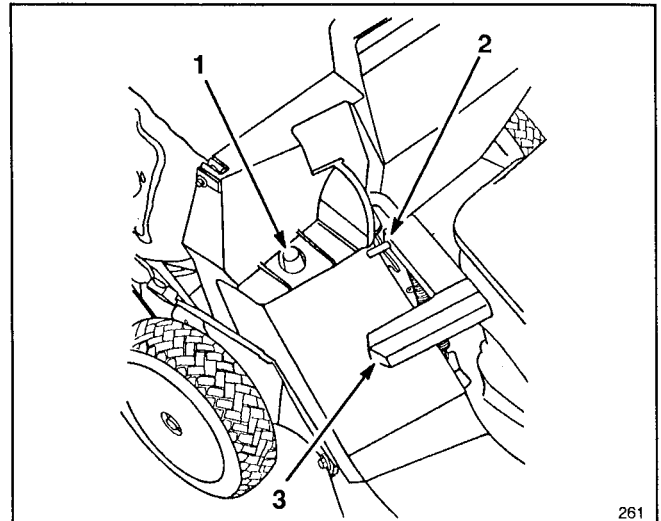

Figure 13
2. Ensure discharge door handle is fully forward and pin is engaged in catch (Fig. 13).
3. **INSTALLING BAG**—Slide hole in bag frame onto retaining post on housing (Fig. 13) and set rear of bag frame onto lower handle.
5. **EMPTYING BAG** — Stop engine and wait for all parts to stop. Raise discharge door handle and move it forward to engage the locking pin with catch (Fig. 13). Grasp handle at front and rear of bag and lift bag off mower. Gradually tip bag forward to empty clippings.